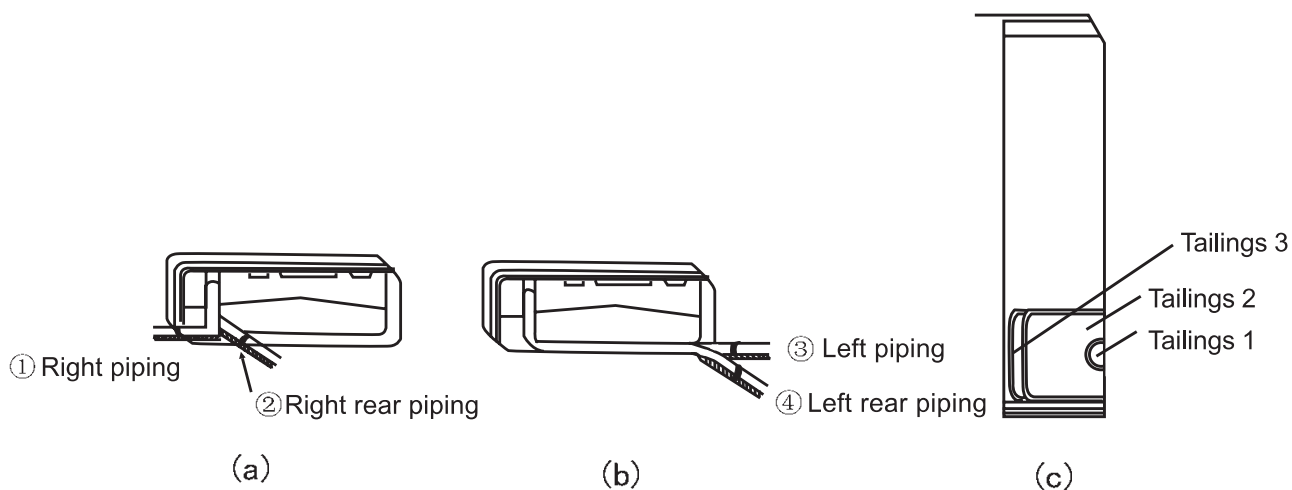

Fig. 4
1. When routing the piping and wiring from the left or right side of the indoor unit, cut off the tailings from the chassis in necessary (shown in Fig.4, (a), (b) and (c)).
- (1) Cut off the tailings 1 when routing the wiring only.
- (2) Cut off the tailings 1 and tailings 2 (or tailings 1, tailings 2 and tailings 3) when routing both the wiring and piping. ①, ② and ③ in Fig. 4 are the recommended piping.